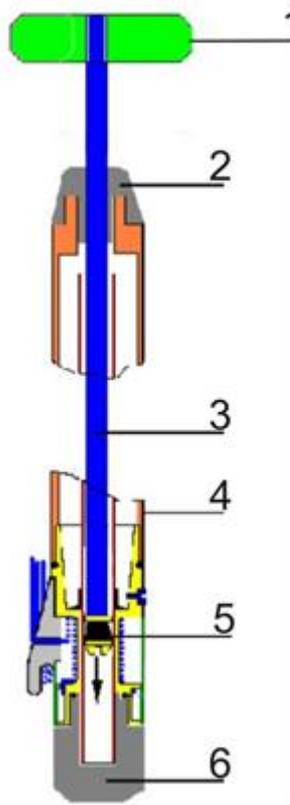

Figure 3 – 1-handle, 2-bushing, 3-pump piston (spare harpoon), 4-receiver, 5-harpoon sealing, 6-plug.
To load, cock the line releaser 11 and safe the gun (arm of the safety 10 up). Reel up the line loop by loop between the bead and line releaser. Insert the harpoon’s shank into the cone 1, and its tip – into the hole of the loading pad 27 (Fig.3). Enter the harpoon into the barrel until it stops (the force depends on pressure in the receiver). Loading can be stopped at any time and resumed after a rest or from a more comfortable position, because the harpoon has no reverse. This makes loading easier and helps to increase significantly the loading force.
- screw the plug 6 from the spare parts kit as shown at Fig. 3.